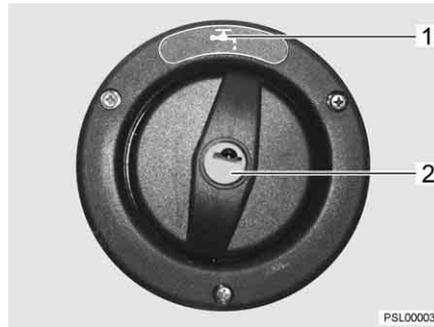

Fig. 178 Drinking water filler neck
The drinking water filler neck is indicated by the symbol "☞" (Fig. 178,1). The cap is open and closed using the key for the external flap locks.
- Insert key into locking cylinder (Fig. 178,2) and turn a quarter turn in an anticlockwise direction.
- Open drinking water filler neck (Fig. 178) (see chapter 6).